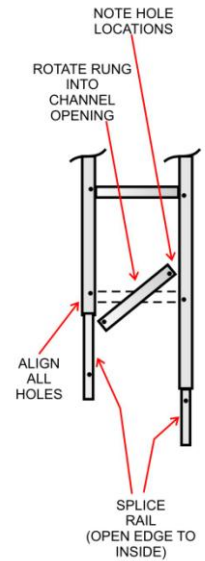

Figure 2.
3. Rotate each rung into the channel opening and align the holes as shown in *Figure 2* (see next page). Ensure that the rungs are parallel to the factory installed rungs.
6. Rotate the rung into the channel opening and align the holes as shown in *Figure 2*. Ensure that the rungs are parallel to the factory installed rungs.